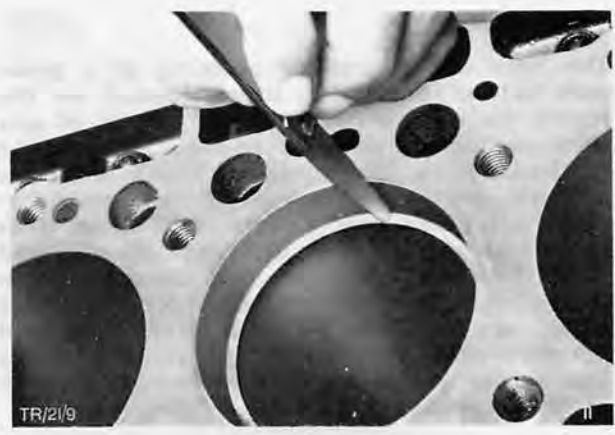

Fig. 64. Check piston ring gap
- (g) Before installing pistons, check piston ring gaps. (Fig. 64).